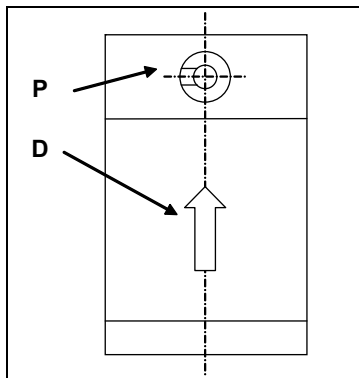

Fig. 7 Position flowmeter at pick up installation
4. Position the flowmeter see Fig. 7, page 30.
5. Press the indexing sleeve **626.5** while making sure that the position is correct, see Fig. 7, page 30. The correct position of the groove is rotated by 90° to the left in the flow direction, max. angle error +/- 10°.